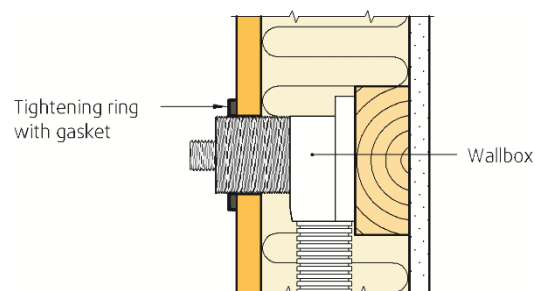

Fig. 4
- Tightening ring and gasket delivered with wall box is installed as illustrated in Fig. 4.